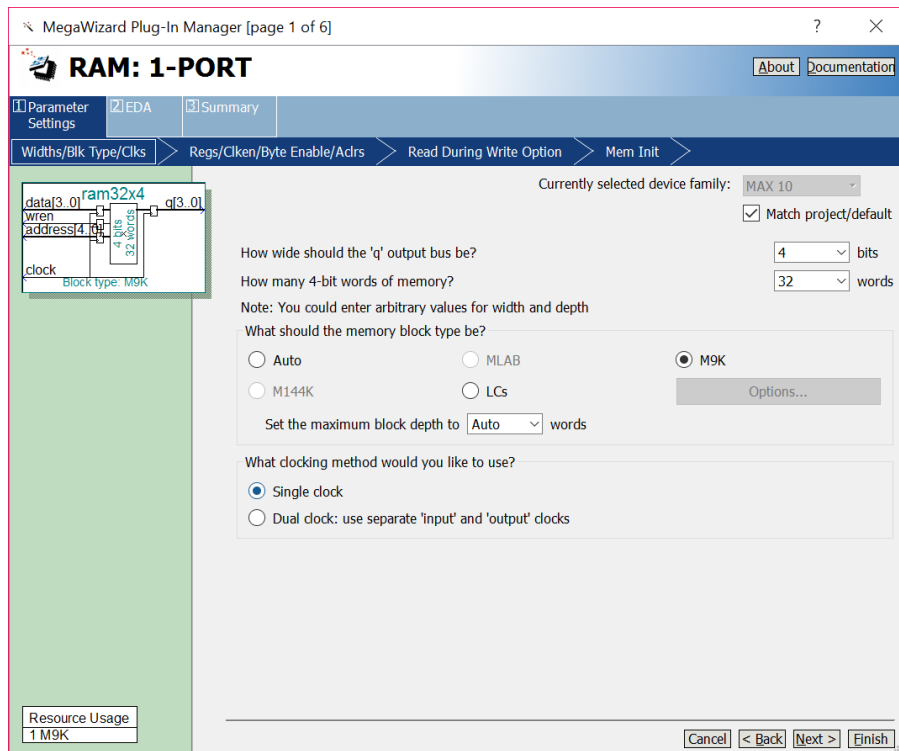
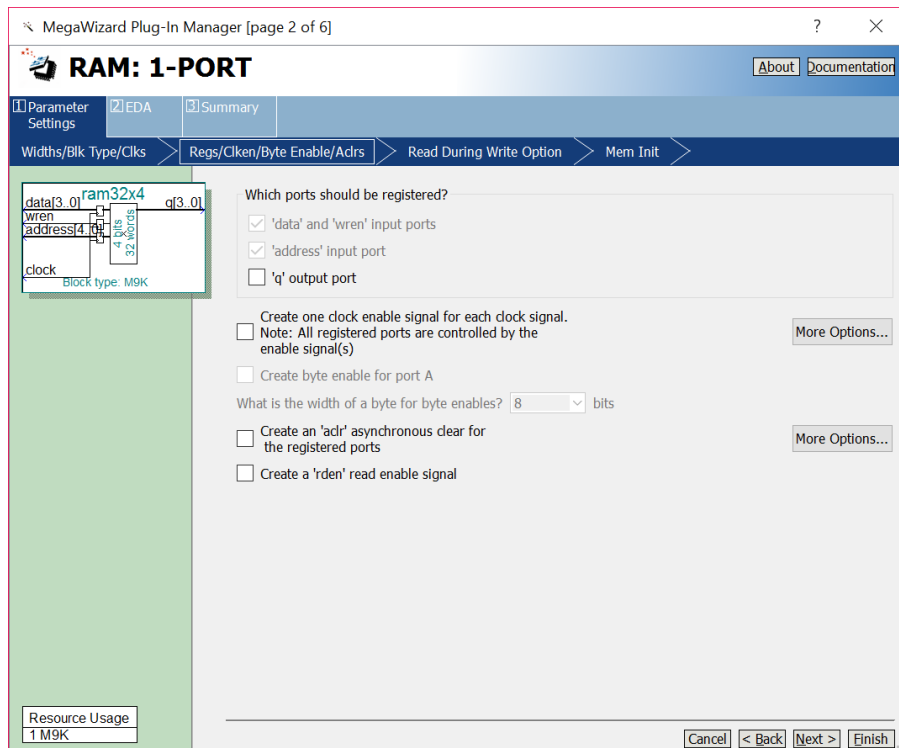

Figure 2: Configuring the size of the memory module.
Figure 3: Configuring input and output ports.
2. To open the IP Catalog in the Quartus software click on Tools > IP Catalog. In the IP Catalog window choose the *RAM: 1-PORT* module, which is found under the Basic Functions > On Chip Memory category. Select VHDL as the type of output file to create, give the file the name *ram32x4.vhd*, and click OK. As shown in Figure 2 specify a memory size of 32 four-bit words. Also on this screen accept the default setting to use a single clock for the memory's registers, and then advance to the page shown in Figure 3. On this page *deselect* the setting called 'q' output port under the category Which ports should be registered?. This setting creates a RAM module that matches the structure in Figure 1b, with registered input ports and unregistered output ports. Accept defaults for the rest of the settings in the Wizard, and click the Finish button to exit from this tool. Examine the *ram32x4.vhd* VHDL file which defines the following subcircuit: ENTITY ram32x4 IS